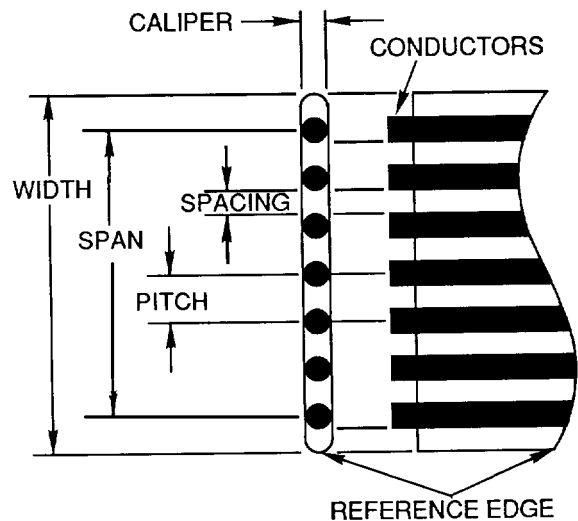

Figure 4. Ribbon Cable Configuration
6. **RIBBON CONFIGURATION.** There are several common terms used in the construction and handling of flat cable that are not common to conventional round cables (Figure 4).